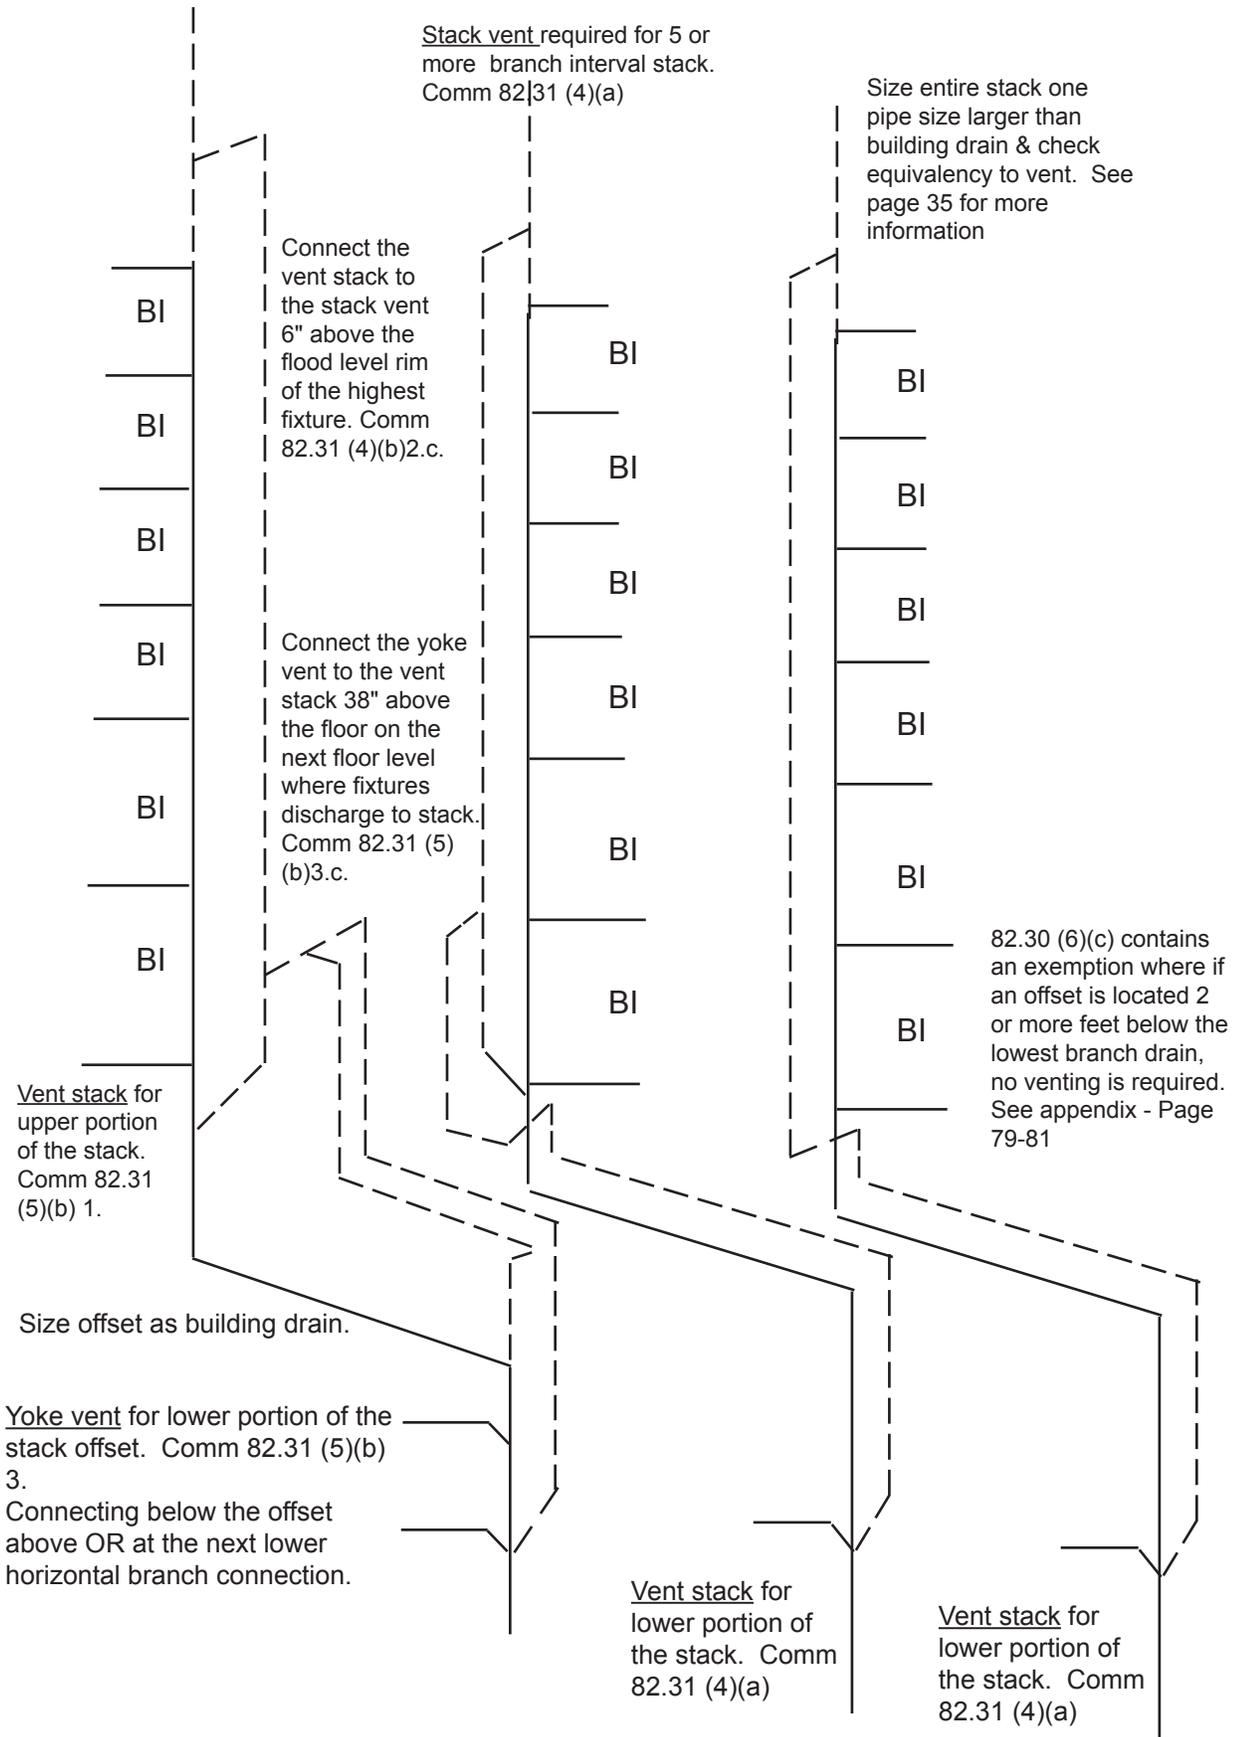

Figure 37. Three options: required vents for a horizontal offset below 5 branch intervals.
3. When 5 branch intervals exist above the horizontal offset, the offset must be vented by a vent stack and yoke vent or by oversizing the offset so the stack acts as a drain and vent system. (Figure 37)